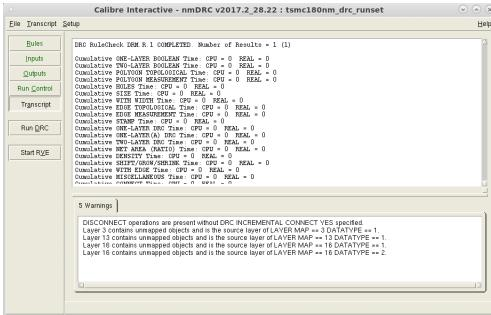

Figure 14: Calibre nmDRC main window.
2. The Calibre nmDRC window now appears (Fig. 14). Normally, you should not have to modify anything on the nmDRC window except for setting the runset file to: